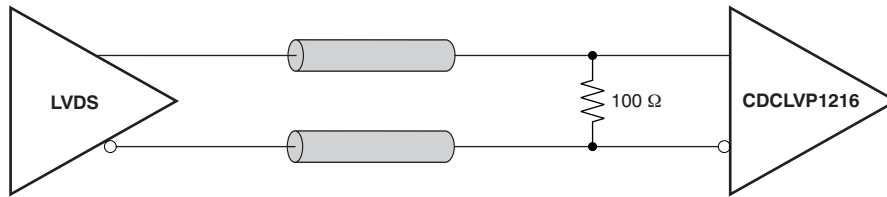

Figure 8. DC-Coupled LVDS Input During Device Test
(1) Figure 5 and Figure 8 show dc test setup. Figure 9 shows ac test setup.